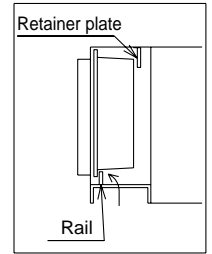

Fig.6
(3) Push the filter up attach to rail. (Fig. 6)
(4) Complete by replacing the bottom plate removed in Step (1).